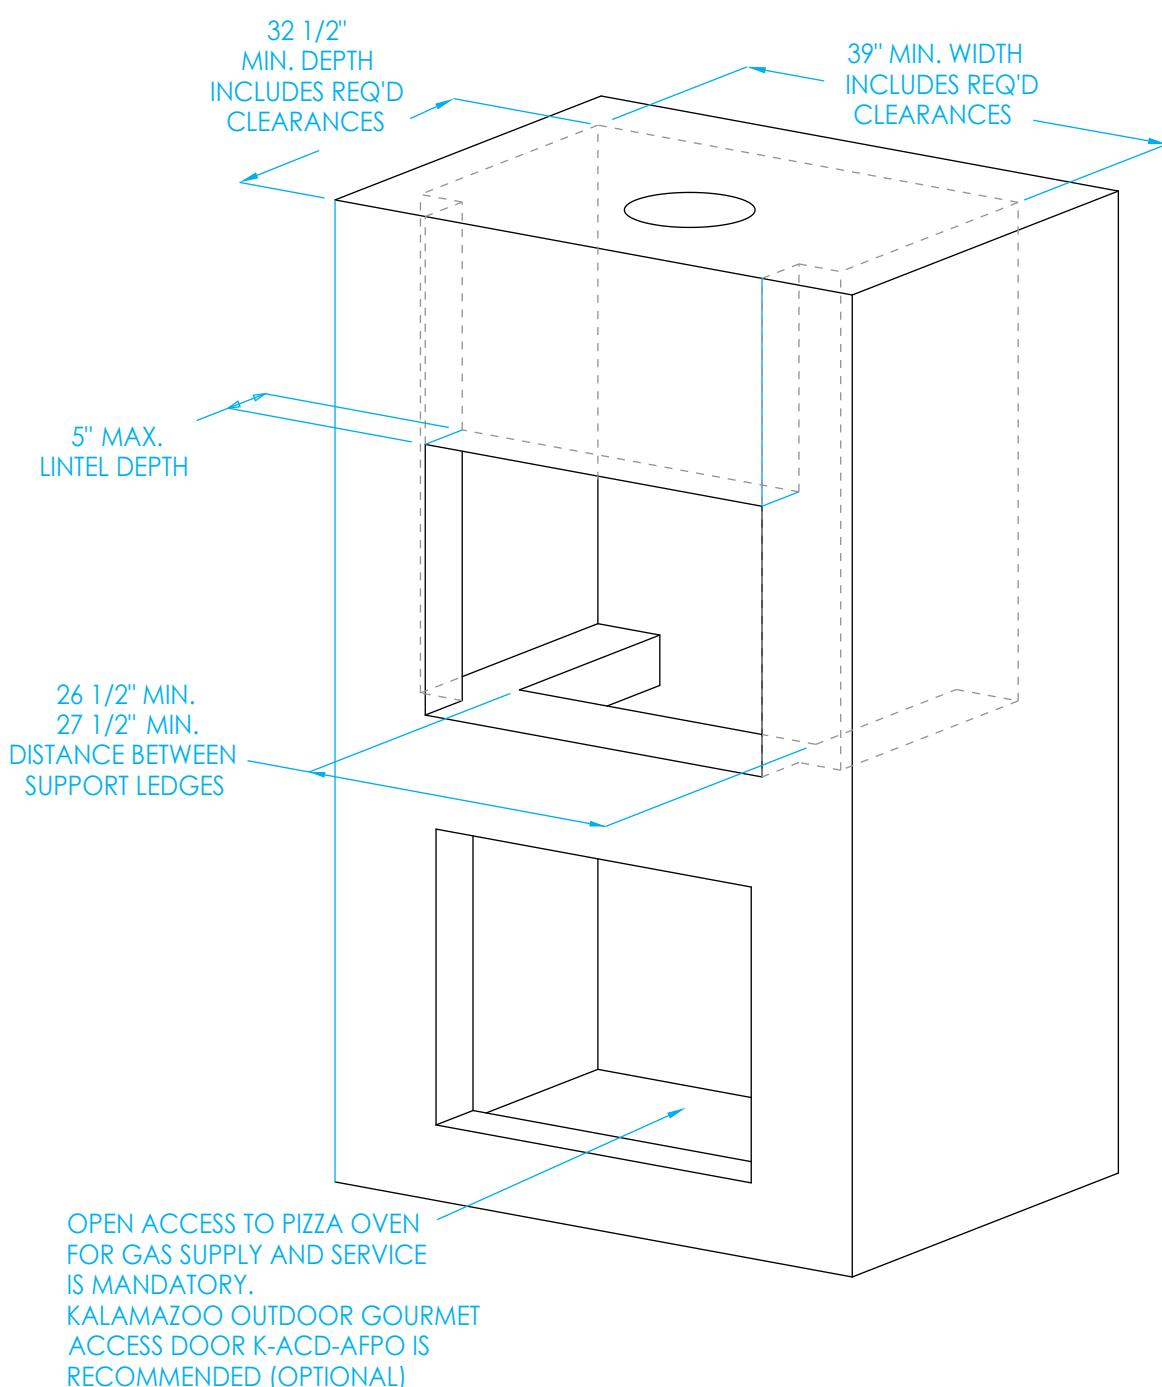
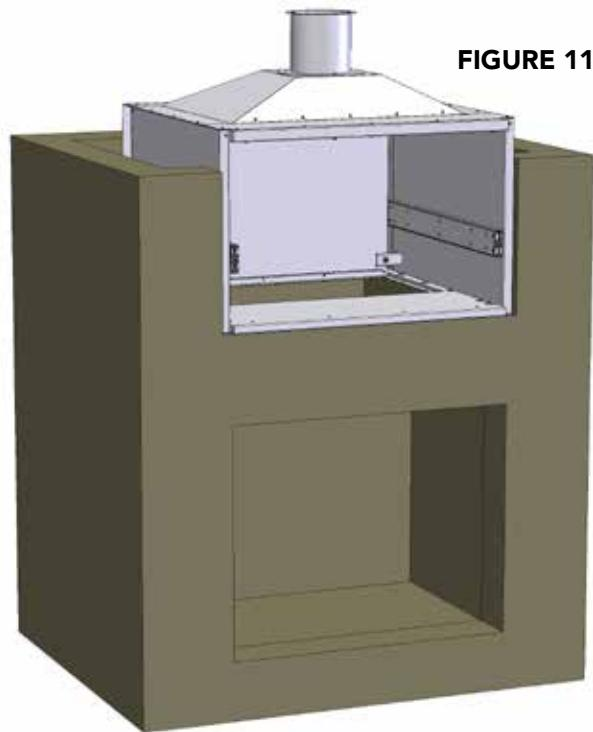

FIGURE 10
FIGURE 11
2. Build the non-combustible structure without fully closing in the front opening (Figure 11). Ensure the support ledges are built to the proper dimensions (Figure 10). Additional clearance is required at the top of the front opening to install the oven liner. The space can only be closed off after the liner is in position.